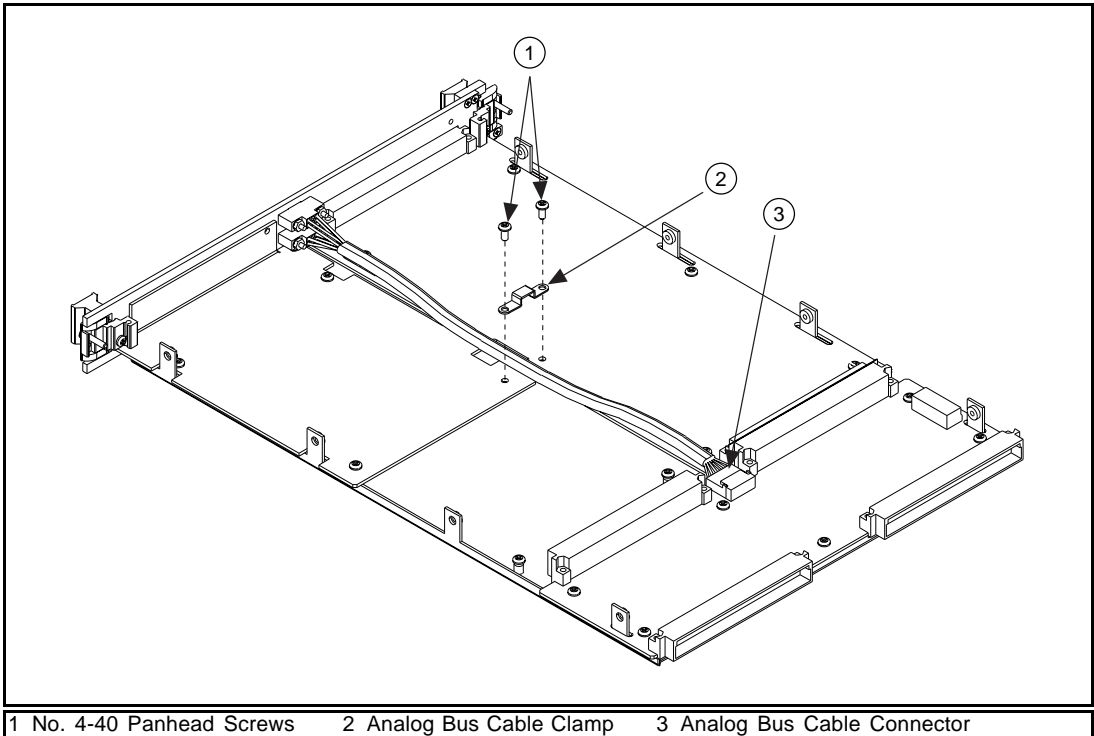

Figure 7. Installing the Analog Bus Cable and Clamp
5. Reconnect the analog bus cable connector (Figure 7, item 3) to the rear of the carrier board as shown. Install the cable clamp (item 2) using two No. 4-40 panhead screws (item 1) using two No. 4-40 panhead screws supplied in your hardware kit.